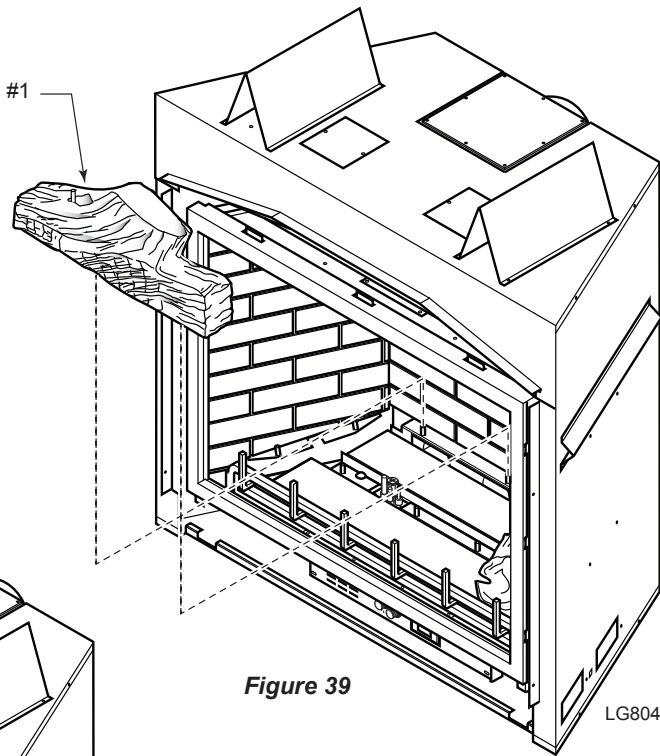

Figure 39
- 4. Place rear log (#1) on two pins against back side of firebox. *Figure 39*